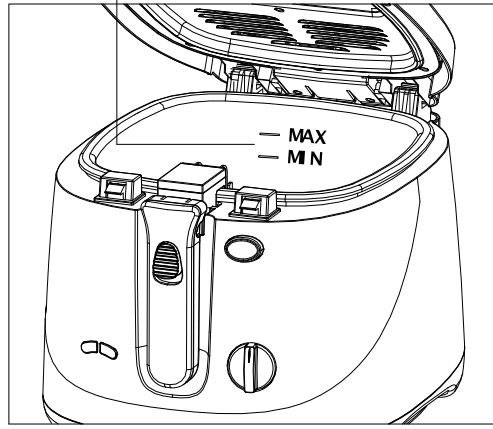

FIG. 8
2. Pour between 2.5 litres of oil into the fryer. The level of oil must be between the MAX and MIN level marked on the surface of the pot. (FIG.8)